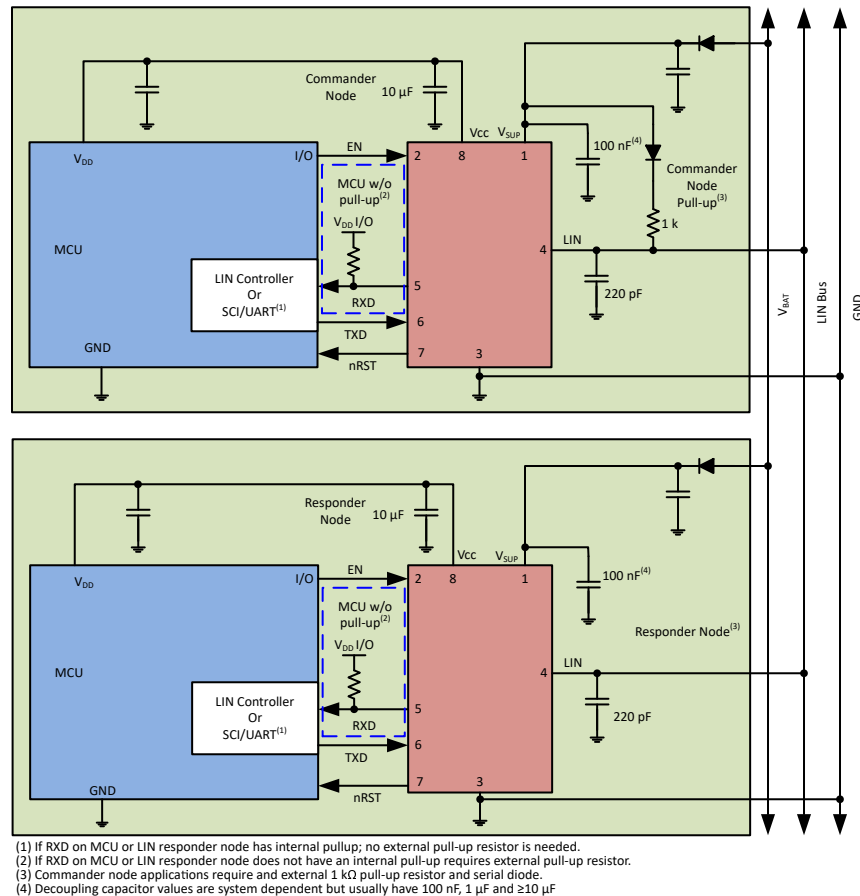

Figure 10-1. Typical LIN Bus
The device comes with an integrated 45 kΩ pull-up resistor and series diode for responder node applications. For commander node applications, an external 1 kΩ pull-up resistor with series blocking diode can be used. Figure 10-1
- **Pin 2 (EN):** EN is an input pin that is used to place the device in a low power sleep mode. If this feature is not used, the pin should be pulled high to the regulated voltage supply of the microprocessor through a series resistor, values between 1 kΩ and 10 kΩ. Additionally, a series resistor may be placed on the pin to limit current on the digital lines in the event of an over-voltage fault.
- **Pin 4 (LIN):** This pin connects to the LIN bus. For responder node applications, a 220 pF capacitor to ground is implemented. For commander node applications, an additional series resistor and blocking diode should be placed between the LIN pin and the V_{SUP} pin. See Figure 10-1